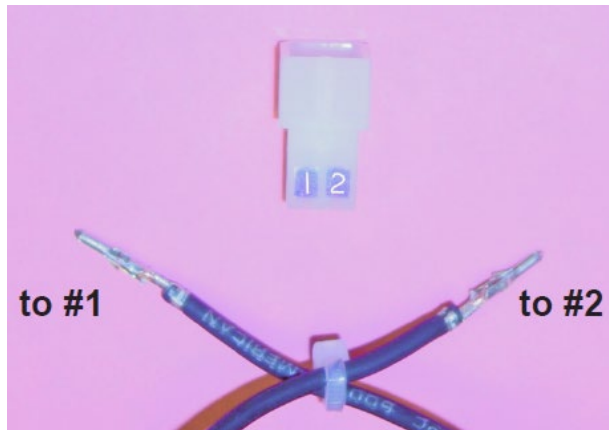

Figure 31: Motor Stirrer Wiring Diagram
6. Ensure that the wires have been inserted through the grommet (step 6). Then attach the wires to #1 and #2 on the new connector. Refer to Figure 31.